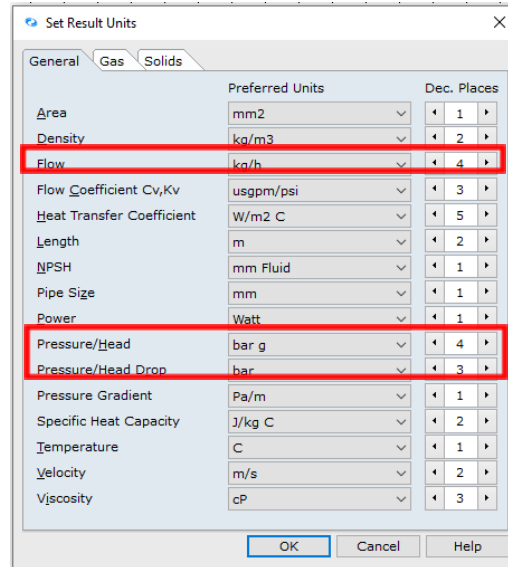

**Figure 23: Set Result Units Dialogue Box.**
21. Alternatively, you can select F9. This opens a new dialogue box per Figure 23.